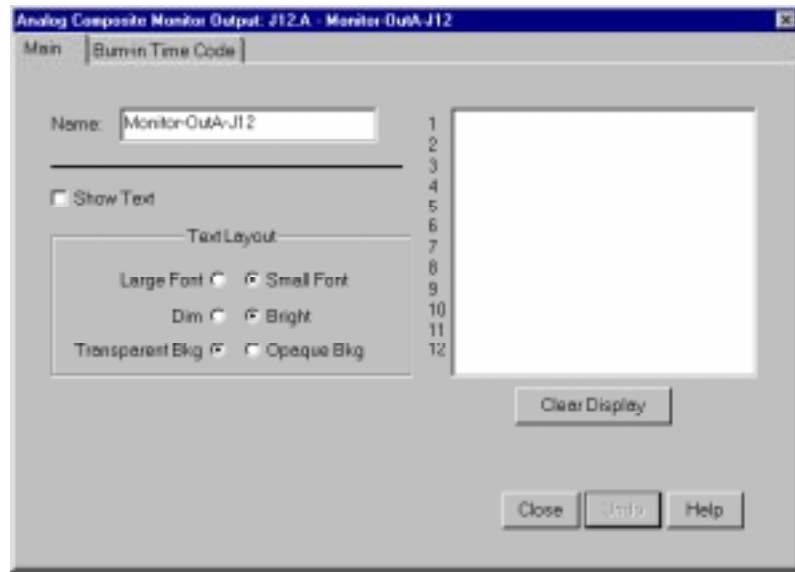

Figure 23. Analog Composite Monitor Output dialog box, Main tab
1. Select **Video Output** from the configuration tree, and then click or double-click a monitor output from the list, such as *Monitor-Out-J12*. The Analog Composite Monitor Output dialog box appears (see Figure 23).